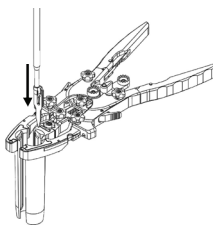

Figure 17
- Slide the shim down the blade channel (Figure 17).